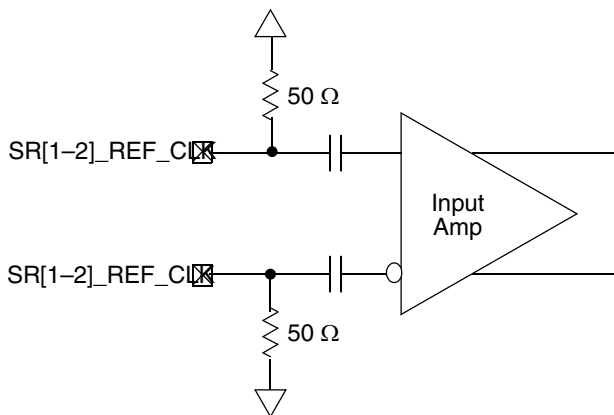

Figure 5. Receiver of SerDes Reference Clocks
The SerDes reference clock inputs are applied to an internal PLL whose output creates the clock used by the corresponding SerDes lanes. The SerDes reference clock inputs are $\text{SR1_REF_CLK}/\overline{\text{SR1_REF_CLK}}$ or $\text{SR2_REF_CLK}/\overline{\text{SR2_REF_CLK}}$. Figure 5 shows a receiver reference diagram of the SerDes reference clocks.
- The $\text{SR}[1-2]_REF_CLK$ and $\overline{\text{SR}[1-2]_REF_CLK}$ are internally AC-coupled differential inputs as shown in Figure 5. Each differential clock input ($\text{SR}[1-2]_REF_CLK$ or $\overline{\text{SR}[1-2]_REF_CLK}$) has on-chip 50- Ω termination to GND_{SX} followed by on-chip AC-coupling.